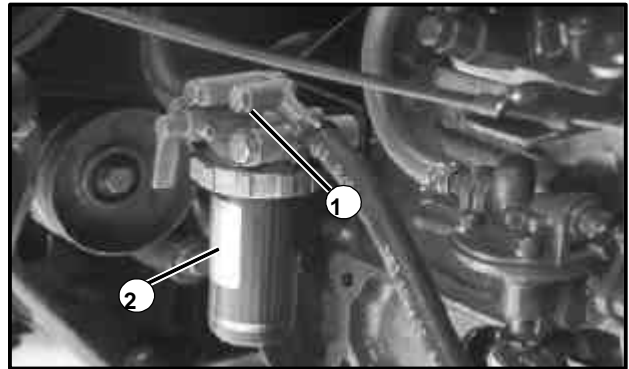

Figure 25
Secondary fuel filter element (See Fig. 25) PN 840161
2. Open the air vent on top of the fuel filter (See Fig. 25).